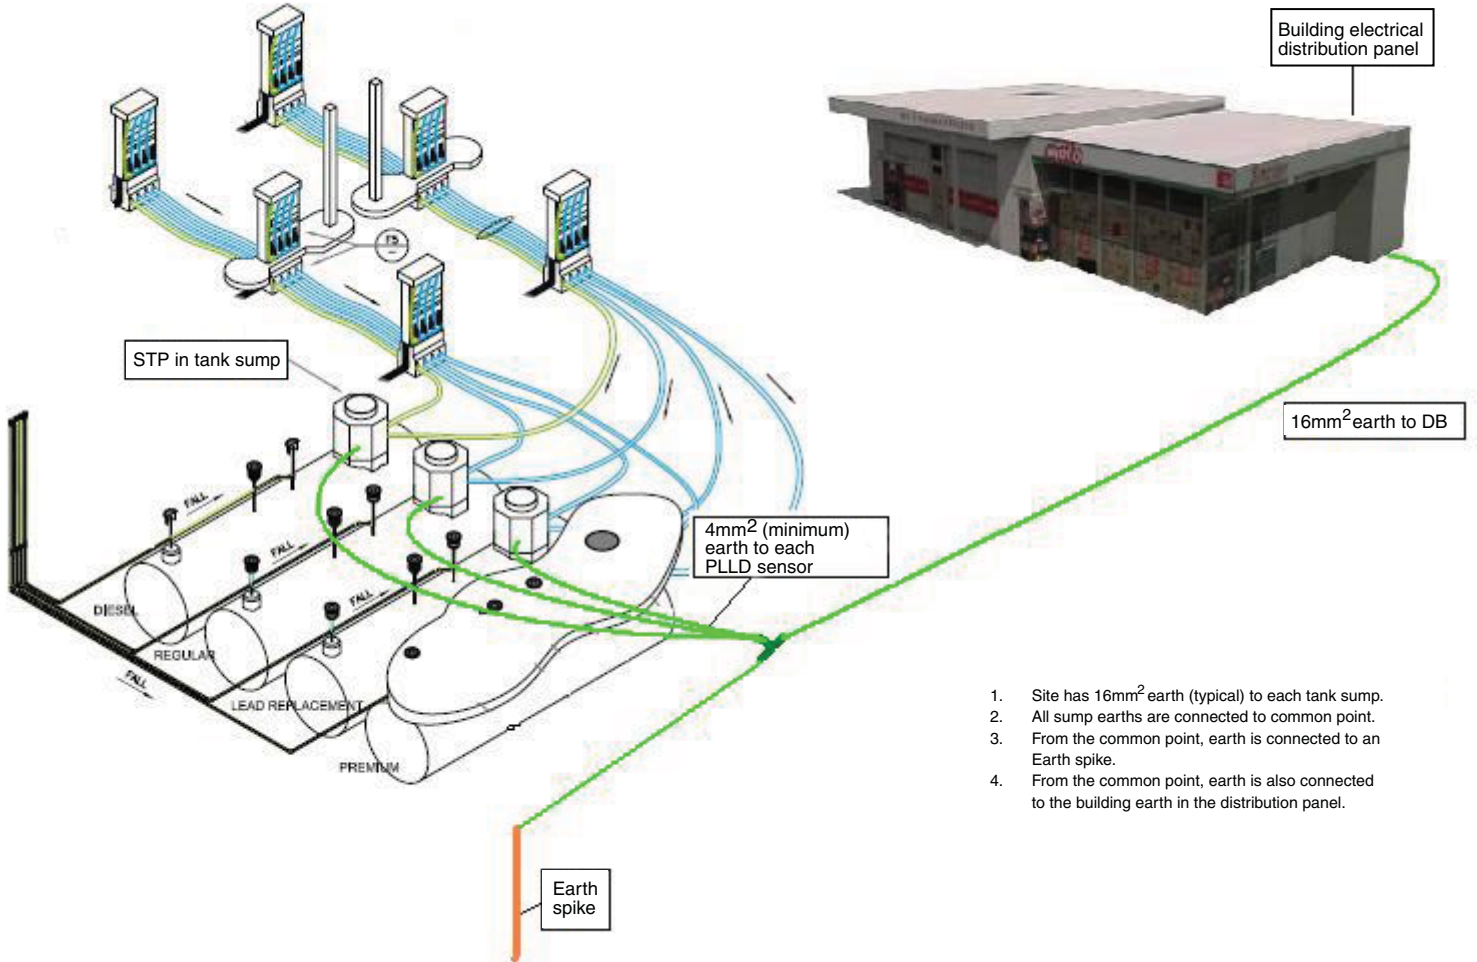

Figure 1.
2. A separate 4mm2 (minimum) wire must be run from the site earth ground to the STP sump in a non-intrinsically safe conduit or duct (see Figure 1). **DO NOT CONNECT THE CLAMP OR BODY OF THE PLLD PRESSURE SENSOR TO ANY INTRINSICALLY SAFE WIRE THAT CONNECTS TO THE TLS CONSOLE.**